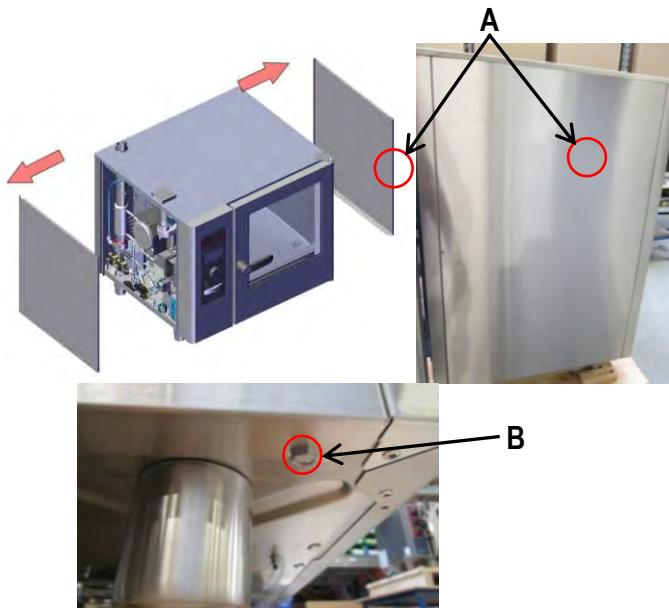

Fig. 48: Unfastening the screws
4. Unfastening the screws on the side plates of the housing of the bottom device (A) and the screws on the base (B) (Fig. 48).